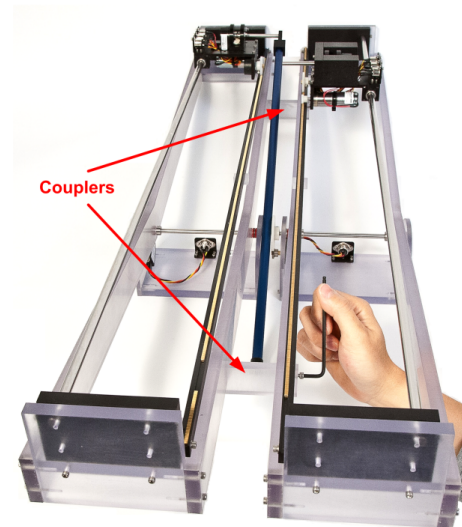

Figure 4.5: Coupling SEESAW-E systems
- Place the two SEESAW systems side-by-side, as shown in Figure 4.5, and connect them together using the SP01 coupling attachments. Make sure you use two SP01 attachments - one for each side of the SEESAWs. Tighten the screws on each SP01 to secure the coupling.